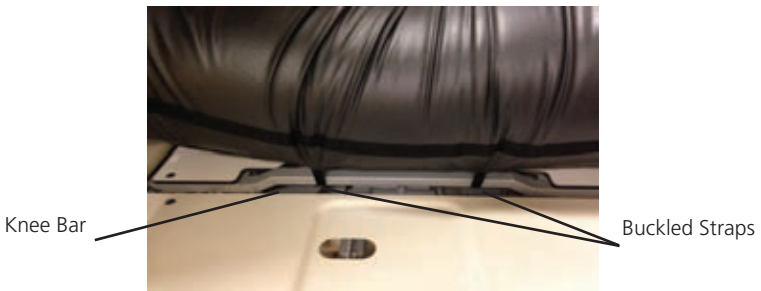

Figure 6
2. Use the two buckled straps located on both sides of the mattress and fasten around knee bar to secure the AtmosAir with SAT M-Series MRS to the bed frame (Figure 6).